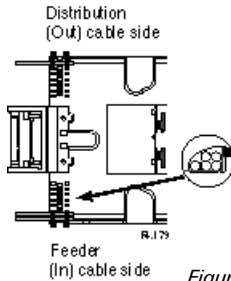

Figure 16
3. Remove the tray cover and routed the "feeder" (in) and "distribution" (out) tubes to the appropriate side of the tray. (Figure 16)
4. Place a pen mark on each tube 1/4" beyond the tie-down slots. Use a buffer tube cutter to cut each tube at the mark, and remove the excess tube from each fiber group. (Figure 16)
5. Secure the transportation tubes to the tray with tie wraps. Tubes will stack under the tie wrap as shown. (Figure 16)